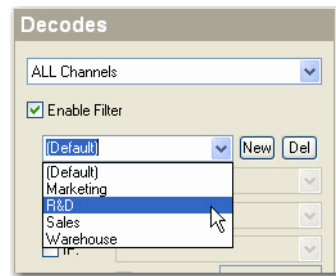

Figure 15-54: Choosing a custom filter
- 2) Click the down arrow and select the filter of interest. See Figure 15-54.
- 1) From the filter list menu, select the filter of interest. See Figure 15-54.